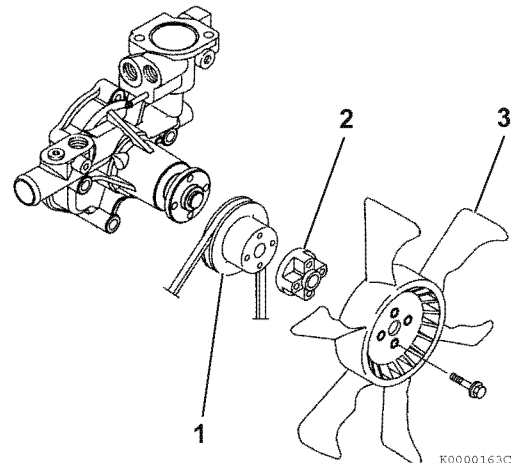

Figure 8-13
4. Reinstall the engine coolant pump V-pulley (Figure 8-13, (1)), spacer (Figure 8-13, (2)) engine coolant fan (Figure 8-13, (3)) and engine coolant fan guard (if equipped).